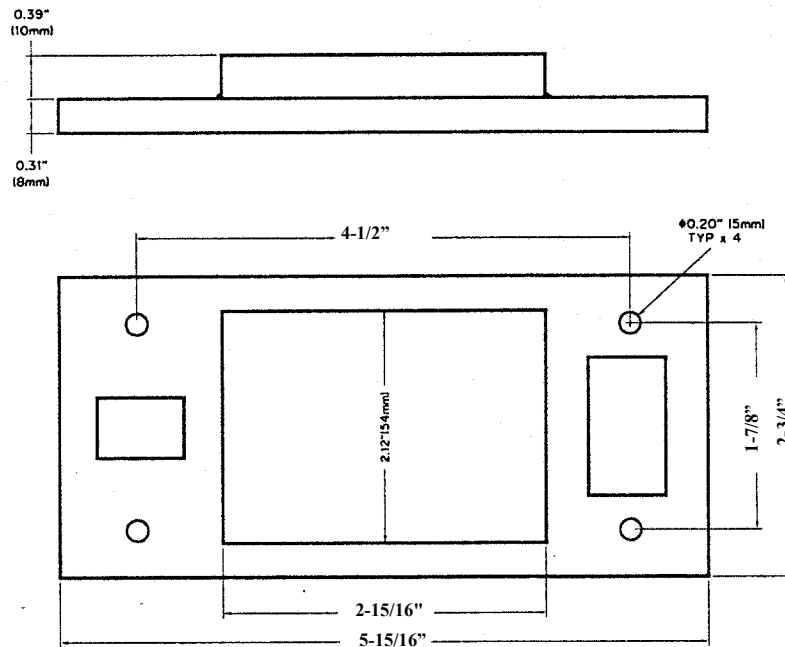

Figure 5: VIU Mounting Template
fuse. *Figure 5* is a rough template for mounting the controller. Dimensions are approximate. For best results, trace the outline of the actual controller on the mounting surface using the controller itself as the template.
1. See *Figure 5 on page 17*, then drill four holes at intended VIU location, at least 3 feet from the fuel tank inlet.